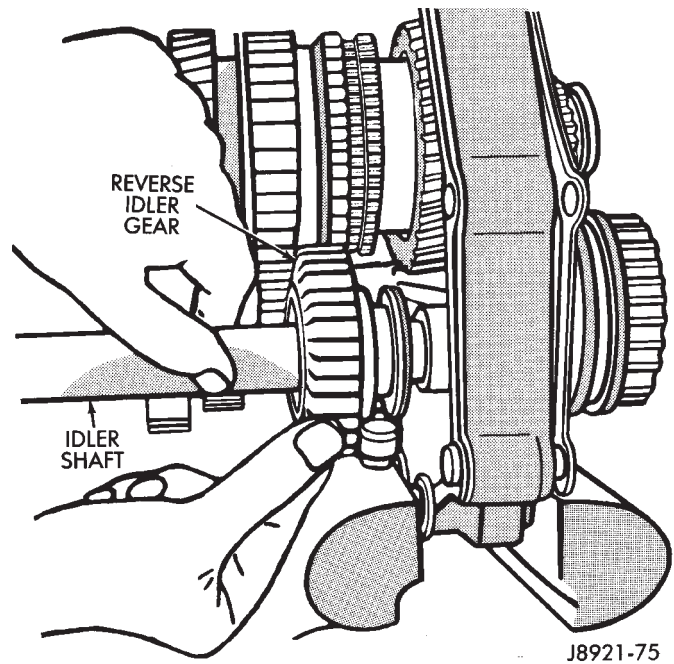

Fig. 75 Installing Reverse Idler Gear And Shaft
(2) Install reverse idler gear on shaft. Then install shaft and gear in intermediate plate (Fig. 75). Install shaft lock plate and tighten attaching bolt to 18 N·m (13 ft. lbs.) torque.